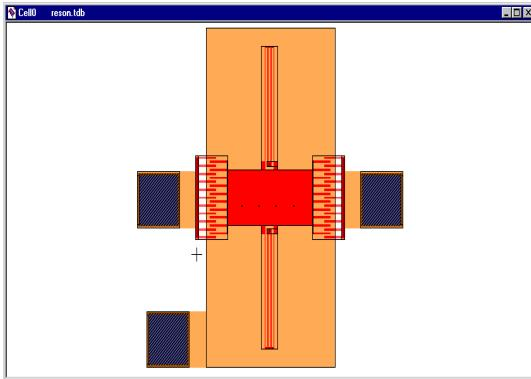

Figure 26: Layout view of the resonator
- Using the **File > Open** command, open the **reson.tdb** file (Figure 26) .